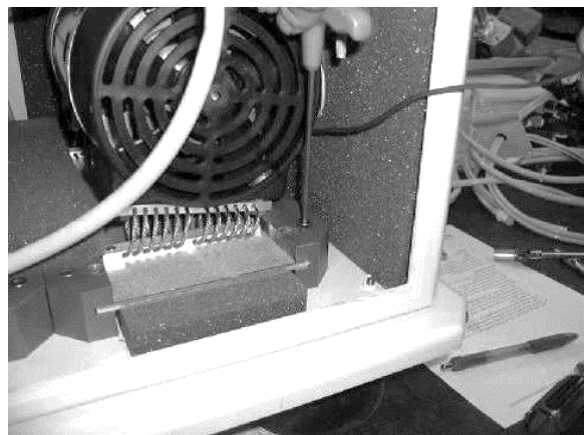

Fig. 7
- 14 Locate the six 10/32 socket screws on both sides of the compressor and remove using the hex head screwdriver. (Fig. 7)